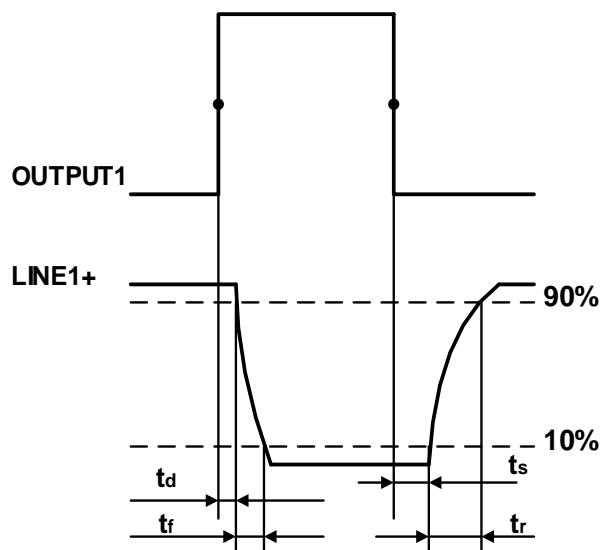

Figure 7-6 Parameter of opto-isolated output circuit
- Rising time delay = t_r+td : <50μs (0°C~45°C) (parameter description is shown in Figure 7-6)
- Falling time delay = t_s+tf : <50μs (0°C~45°C) (parameter description is shown in Figure 7-6)
- Rising time delay = $tr+td$: <20μs (0°C~45°C) (parameter description as shown in Figure 7-6)
- Falling time delay = $ts+tf$: <20μs (0°C~45°C) (parameter description as shown in Figure 7-6)